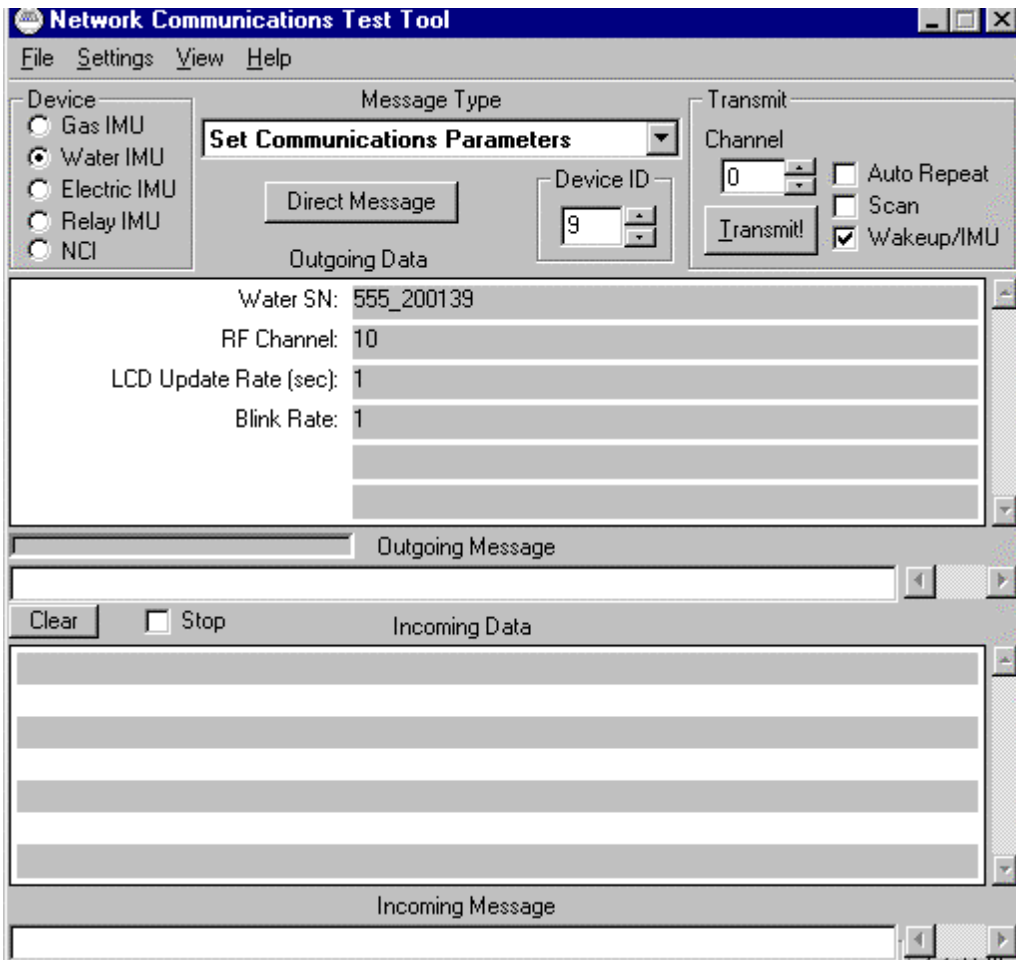

Figure 2. Example of an NCTT Command Screen.
1. In the Message Type window select a command from the pull-down menu. See figure 2.